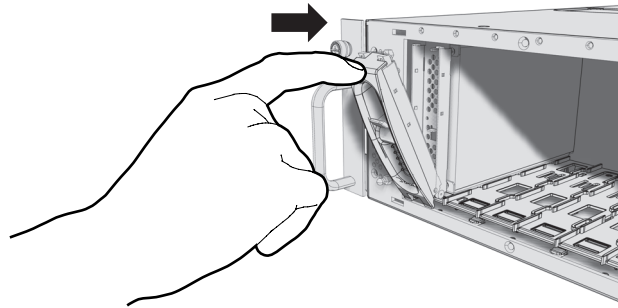

Figure 15. Installing the Hard Drive Carrier
- b. With the hard drive latch open, slide the hard drive carrier gently into an open hard drive bay (refer to Figure 15).